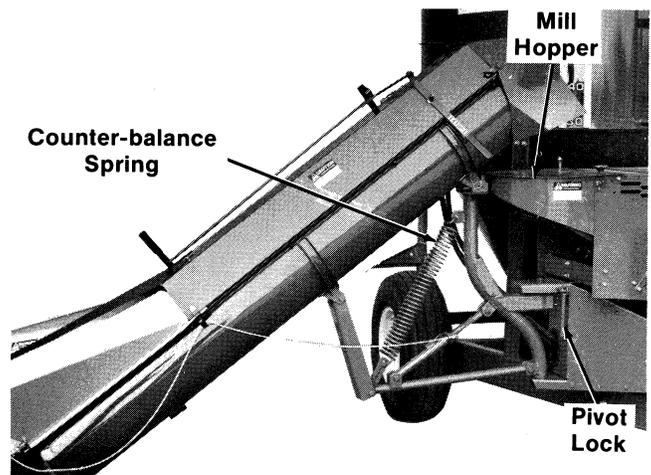
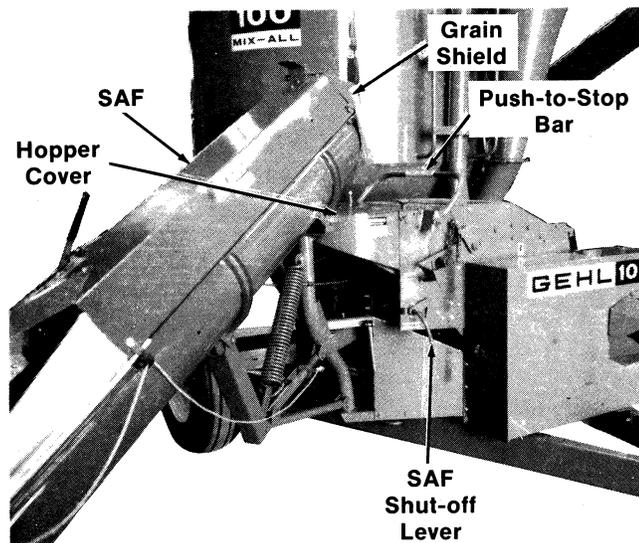

Fig. 6-10
Fig. 6-12: SAF/FR Feeder Attachment
**Swinging Auger Feeder (Fig. 6-10)**
### Swinging Auger/Feed Roll Feeder (Fig. 6-12 & See Fig. 6-10)